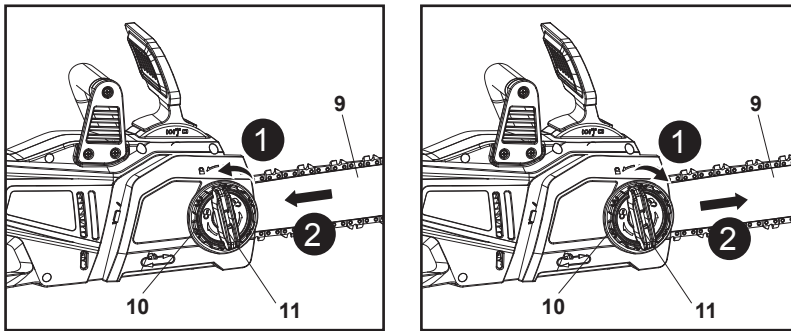

Fig. 8
3. Adjust the tension if you find that the saw chain (8) is too loose or tight.
4. Slightly loosen the locking wheel (11), then rotate the chain tension wheel (10) anticlockwise or clockwise to adjust the guide bar (9) towards the left or right until the chain 'tie straps' are just touching the bottom edge of the guide bar (9), hold it in the position (Fig. 8).